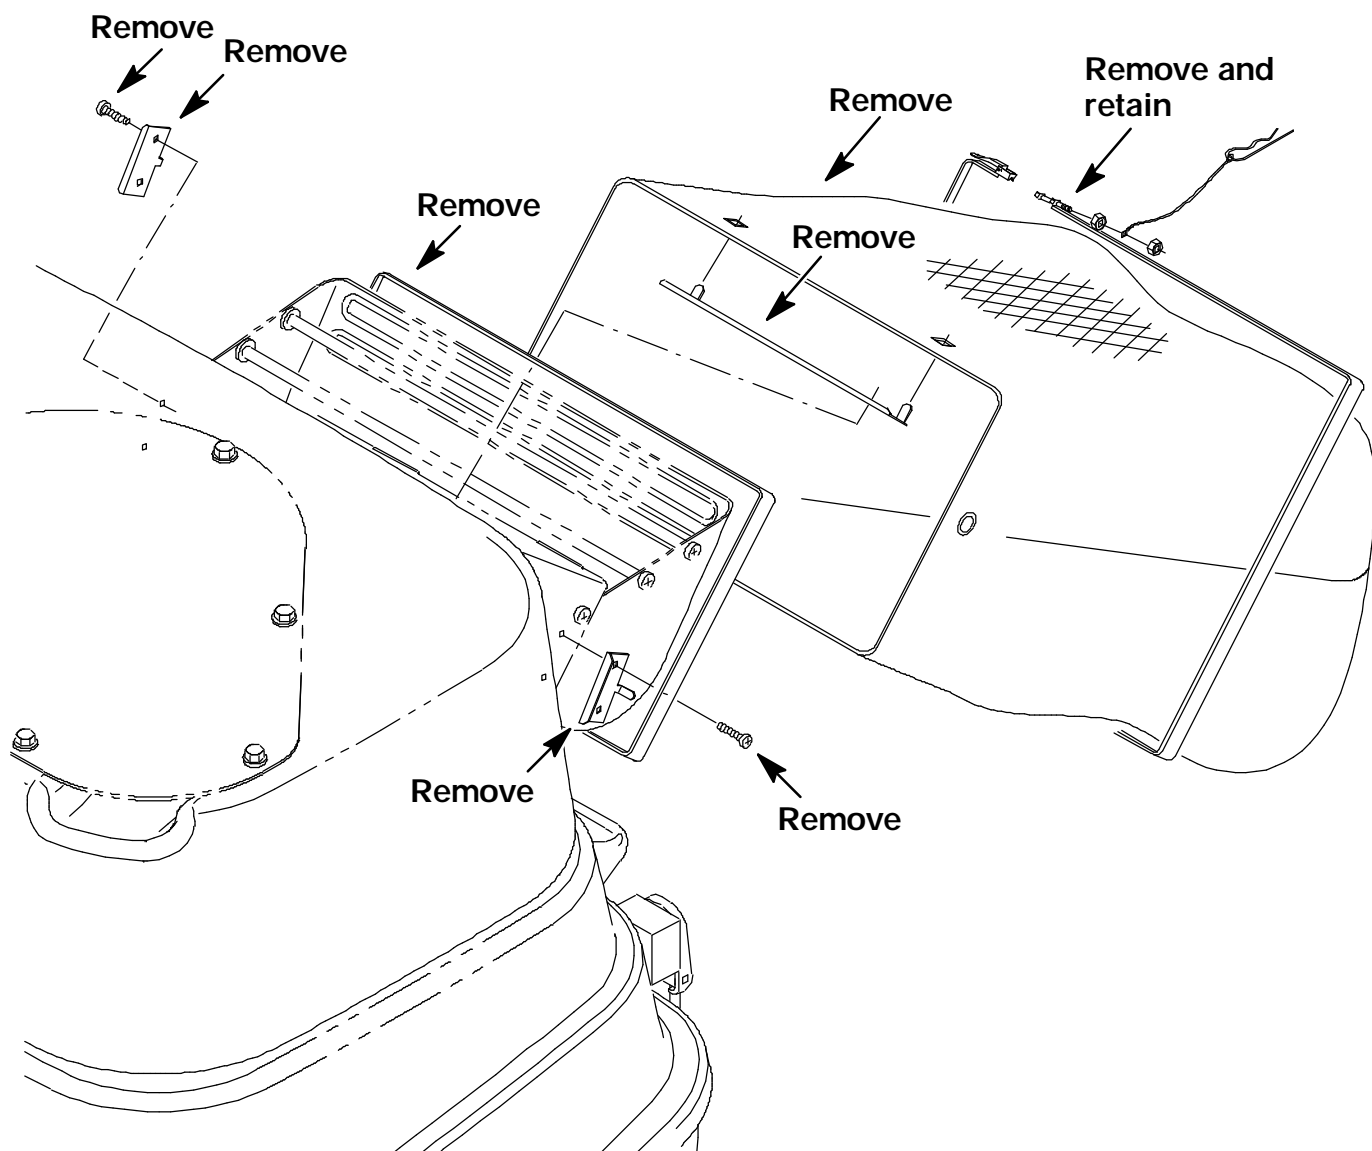

FIG. 3 - Filter Bag Assembly
(Refer to FIG. 3)
2. Remove and discard the filter bag. (Refer to FIG. 3)
3. Remove and discard the existing top channel, side channels, and foam seal. (Refer to FIG. 3)
4. Install the new filter bag (4) onto the new vacuum exhaust plate (1). (Refer to FIG. 3)
5. Reinstall the existing filter bag quick release clamp. (Refer to FIG. 3)